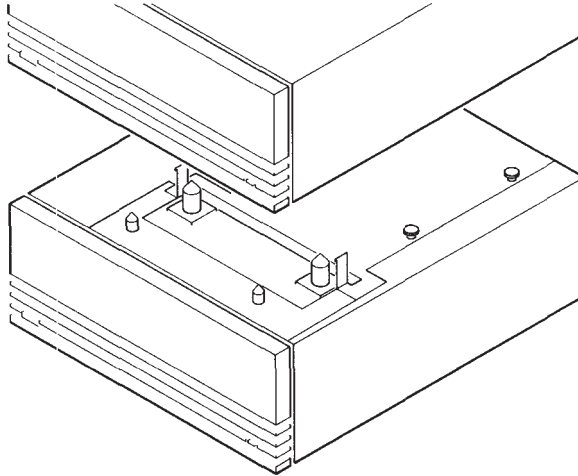

Figure 8-4.
- e. Gently but firmly press the HP 98700 down until the connector engages and seats (see Figure 8-4).